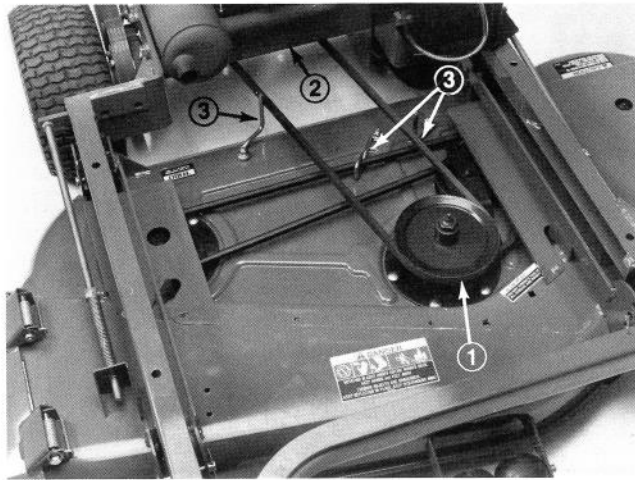

Figure 3
1. Route belt around deck drive pulley and engine clutch pulley (Fig. 3). Belt must be between belt guides.